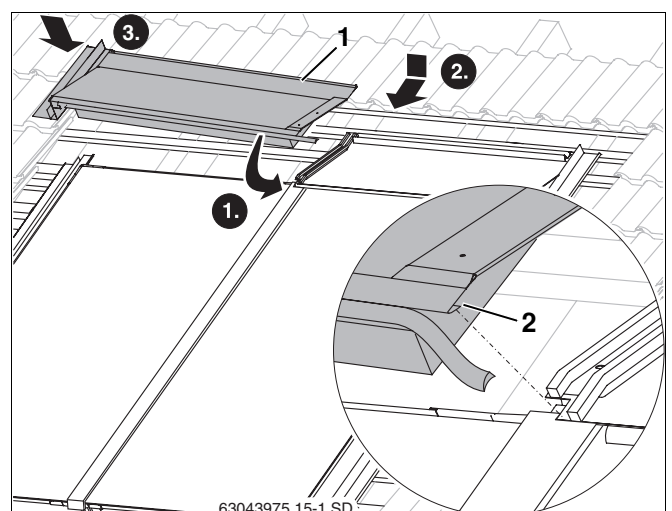

Fig. 57 Upper left facing collector
- Feed collector fold on remaining upper facing collectors (Fig. 57, **Item 2**) into the fitted facing collector and then push towards the collector.
- Feed the upper left facing collector (Fig. 57, **Item 1**) into the side facing collector on the left.